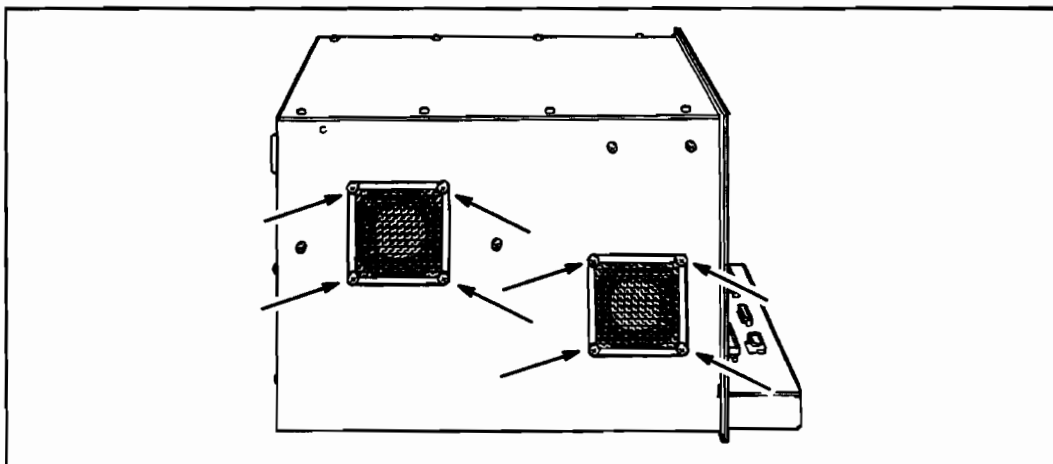

Figure 6-107. VRC Fan Removal
5. Using a 2 pt. Pozidriv screwdriver, remove the four screws that mount the fan, fan screen, and bracket to the VRC chassis. See Figure 6-107.